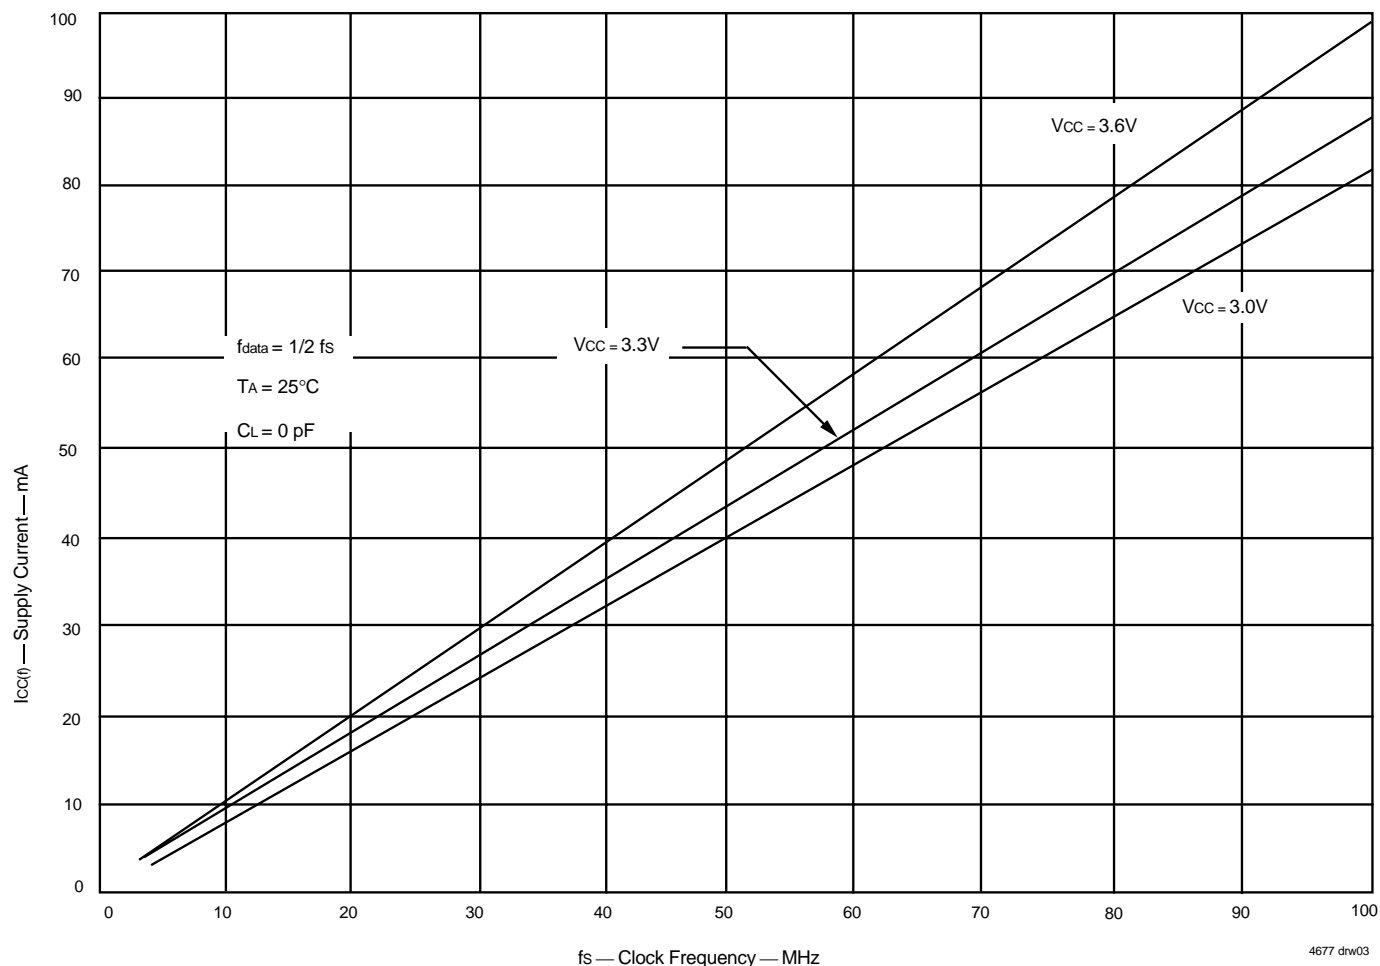

Figure 1. Typical Characteristics: Supply Current (I_{CC}) vs. Clock Frequency (f_s)
- For additional I_{CC} information, see Figure 1, *Typical Characteristics: Supply Current (I_{CC}) vs. Clock Frequency (fs)*.
The $I_{CC(f)}$ current for the graph in Figure 1 was taken while simultaneously reading and writing a FIFO on the IDT72V3684/72V3694/72V36104 with CLKA and CLKB set to f_s . All data inputs and data outputs change state during each clock cycle to consume the highest supply current. Data outputs were disconnected to normalize the graph to a zero capacitance load. Once the capacitance load per data-output channel and the number of these device's inputs driven by TTL HIGH levels are known, the power dissipation can be calculated with the equation below.
With $I_{CC(f)}$ taken from Figure 1, the maximum power dissipation (PT) of these FIFOs may be calculated by: